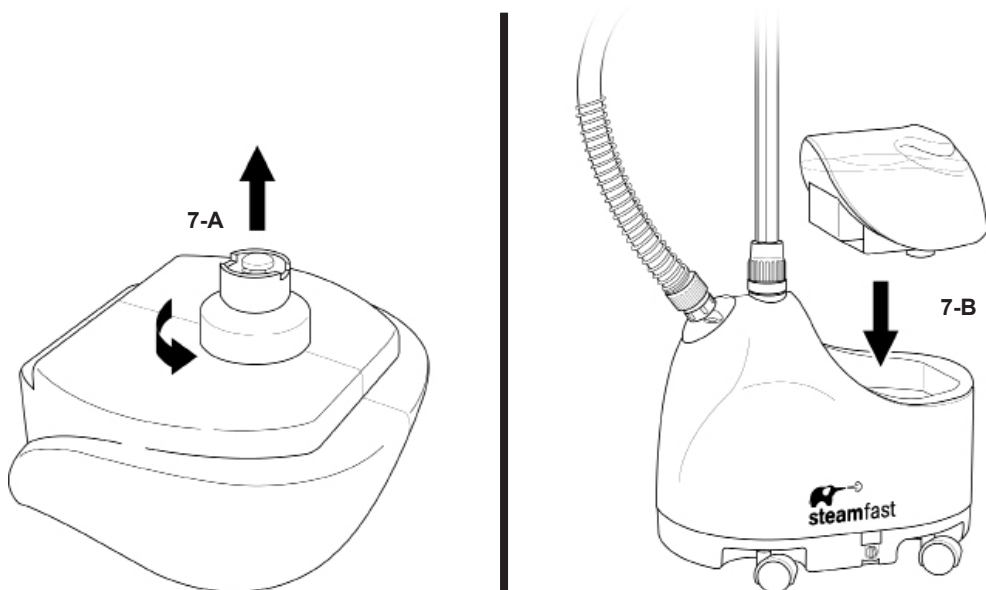

FIGURE 7
2. Holding Water Tank upside-down, unscrew and remove Valve Cap by rotating it in a counter-clockwise direction (FIGURE 7-A).
5. Place Water Tank back onto main unit (FIGURE 7-B). The sound of water flowing from Water Tank into Water Reservoir should be audible for a short period of time.